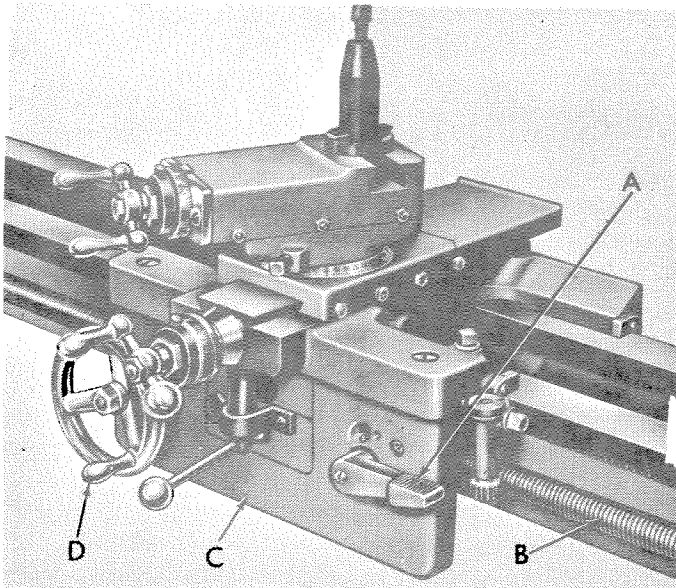
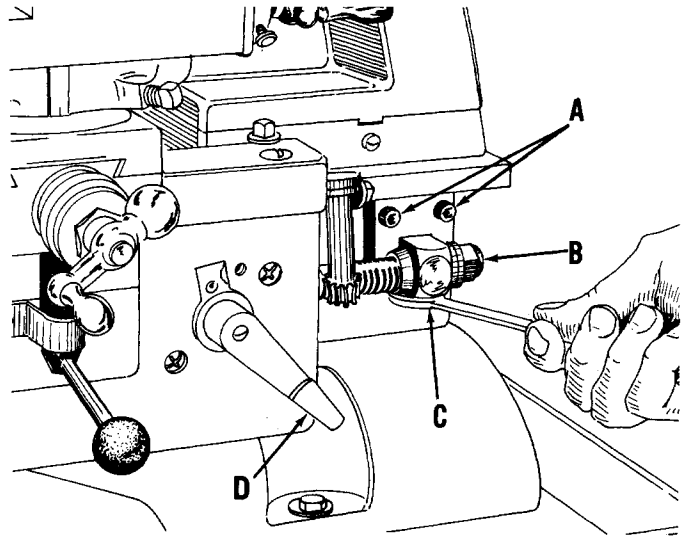

FIGURE 20
FIGURE 22
1. Raise half nut lever (A, Fig. 20) disengaging half nuts from lead screw (B).
2. Move carriage (C, Fig. 20) to tailstock end of lathe.
3. Loosen but do not remove socket cap screws (A, Fig. 22).
4. Loosen but do not remove hex cap screw (C), or socket set screw on some lathes.
5. Lower half nut lever (D) as shown above to engage half nuts.
CAUTION: WHEN ENGAGING HALF NUTS BE SURE HALF NUTS AND LEAD SCREW THREADS MESH FULLY - IT MAY BE NECESSARY TO MOVE CARRIAGE (C, FIG. 20) SLIGHTLY WITH HANDWHEEL (D) WHILE ENGAGING HALF NUTS.
6. Tighten screws (A, Fig. 22).
7. Tighten screw (C, Fig. 22).
8. Rock carriage back and forth using handwheel (D, Fig. 20) and check lead screw end play.
If end play is evident, tighten cone lock nut (B, Fig. 22) just enough to eliminate play - - do not over-tighten.